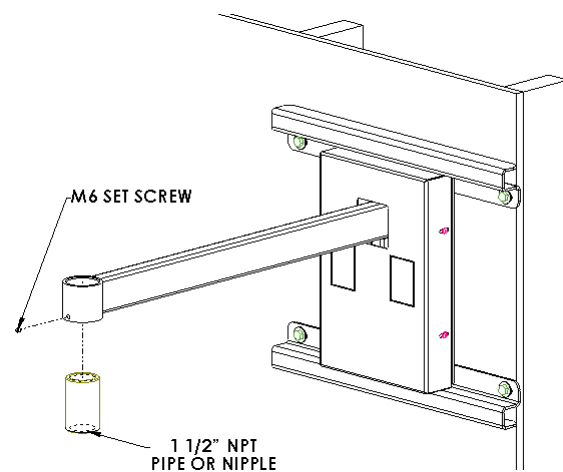

Figure 7. Connect NPT Pipe or Nipple to Wall Arm
1. Locate M6 x 6mm set screw (100) and 1-1/2" NPT pipe or nipple (supplied with TV Mount or purchased separately).
2. Connect the 1-1/2" NPT pipe or nipple (supplied with TV Mount or purchased separately) to the wall arm (10). See Figure 7.
3. Using the M3 Allen key (110, supplied), install the M6 x 6mm set screw (100). Tighten the set screw.